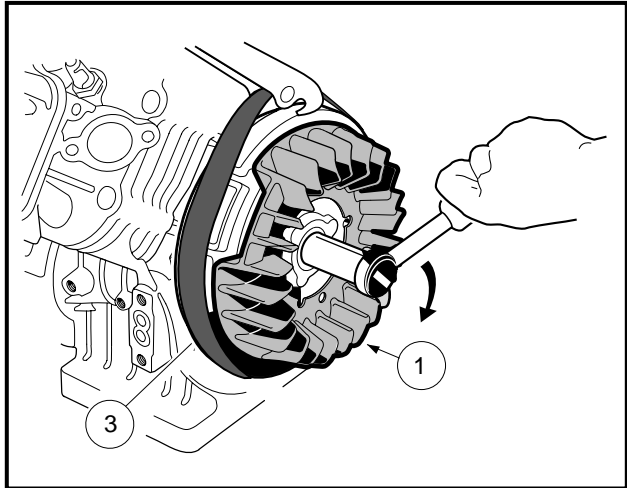

Figure 13-107 Fan and Flywheel Assembly
3. Use a strap wrench (3) to keep the flywheel and fan assembly (1) from turning while tightening the flywheel nut to 63 ft-lb (85.4 N-m) (**Figure 13-107, Page 13-48**). **See following CAUTION.**